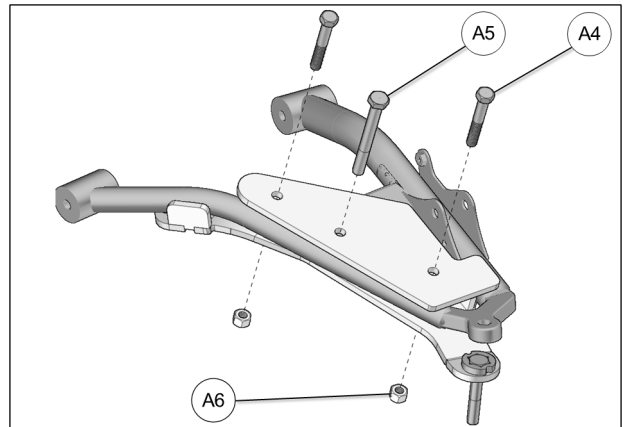

Fig. 18
6. Insert the M10x60mm bolts (A4) and the M10x90mm bolt (A5) through the top and secure the two parts together with the nuts (A6) provided. Tighten assembly to 50 N•m [37 lb•ft] of torque. See Fig. 18